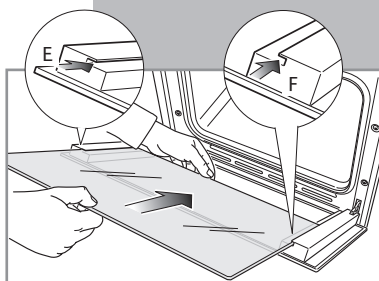
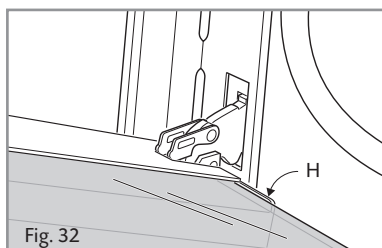

Fig. 31
Fig. 32
- Insert the pane in the left **E** and right **F** slide guides (fig. 31), and gently slide it to the retainers **H** (fig. 32).